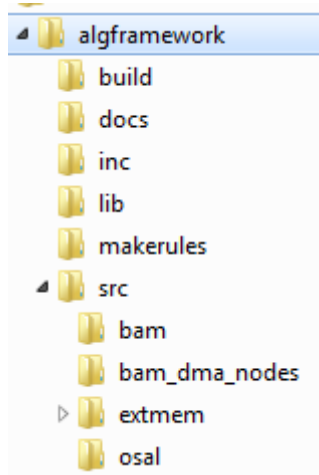

Figure 3 Component Directory Structure
- Figure 3 Component Directory Structure
Figure 3 shows the sub-directories created in the EVE SW install directory that are specific to the BAM release.